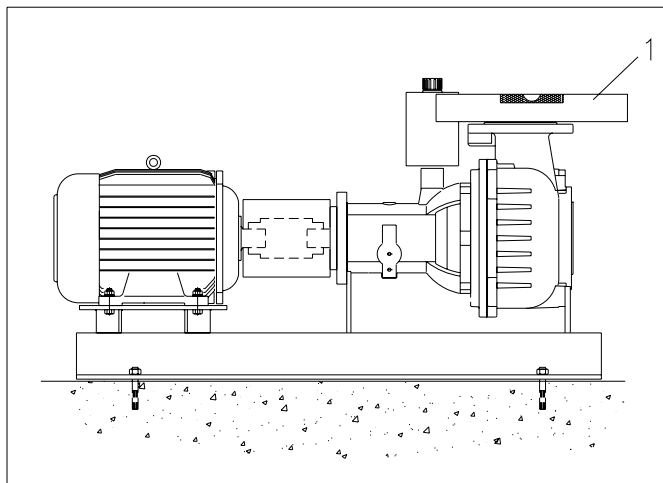

Fig. 7.2
- flanges straight horizontal and vertical see fig. 7.2 pos 1.